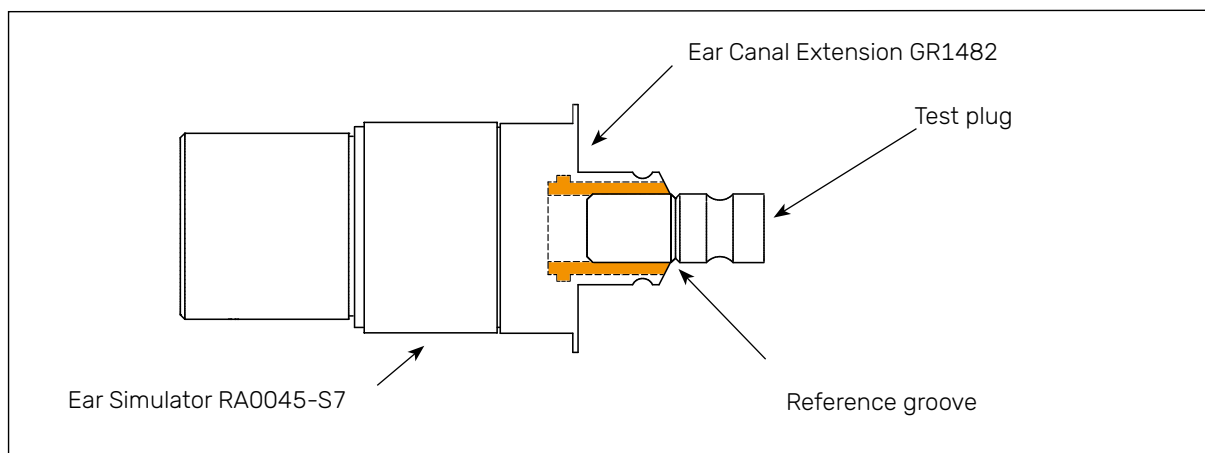

Fig. 22. Plug for checking of wear to the rubber lining of the ear canal extension.
1. Apply a small amount of grease (MI0016) to the O-ring in the 45CB to make a sealed fit (Fig. 22).